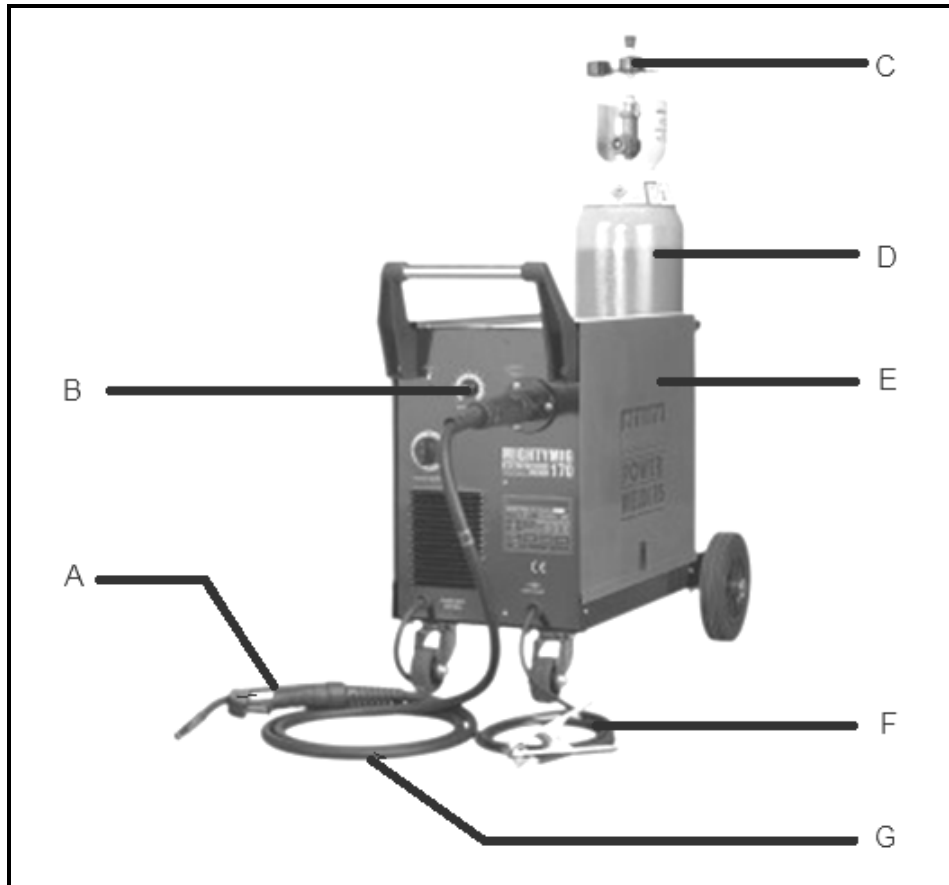

FIGURE 6.1
6.1 FIGURE 6.1 shows a welding machine with different attachments.
- 6.1.1 Identify the welding machine in FIGURE 6.1. (1)
- 6.1.2 Label parts **A–G** in FIGURE 6.1. (7)